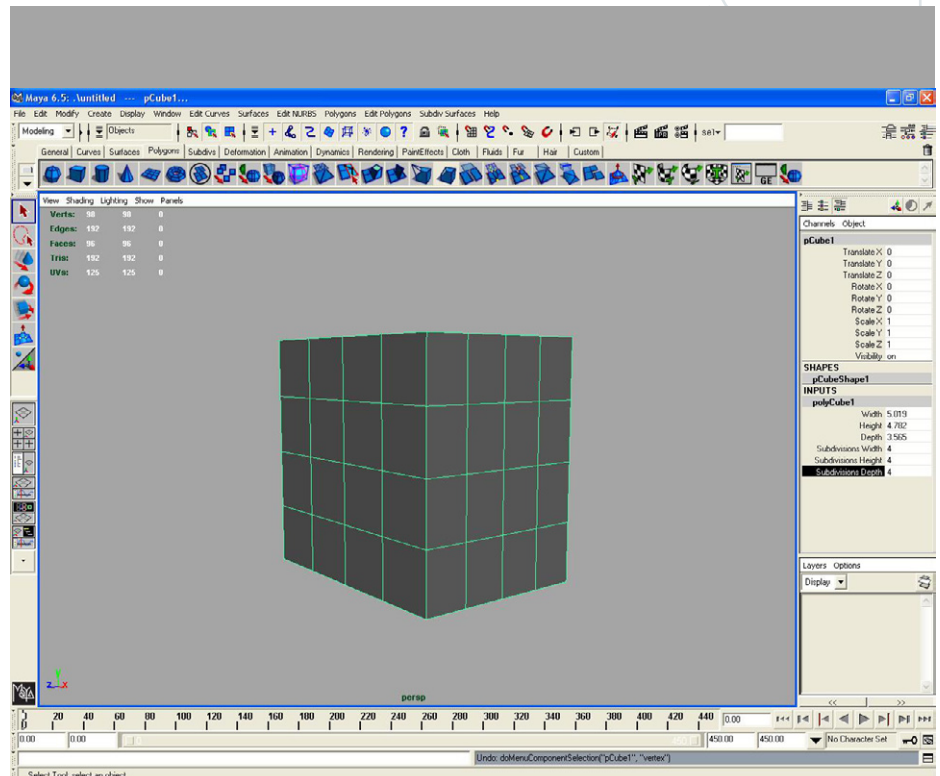

Fig 01
1. The first step we create a basic cube for us to start modeling from. Create a polygon cube (Create < Polygon Primitives < Cube). Scale your cube up slightly ("R" being the scale tool hotkey). On the right side of the screen in the channel box, under the "INPUTS" tab, click on the name "polyCube1", and it will open up a few addition attributes we need to adjust. Set width/height/depth subdivisions all to 4. (Fig 01)